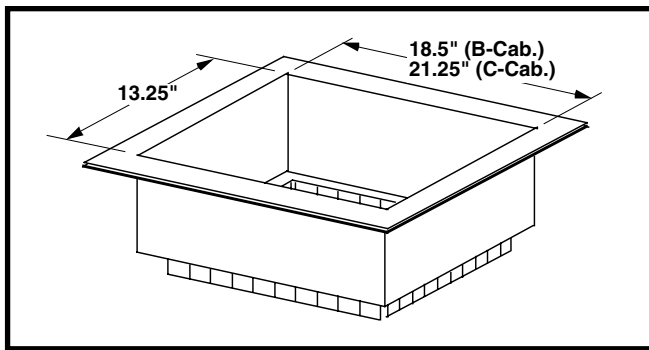

Figure 4. Plenum Adapter
1. Measure and mark the outline of the cut-out on the floor. See Figure 4 for cutout dimensions.